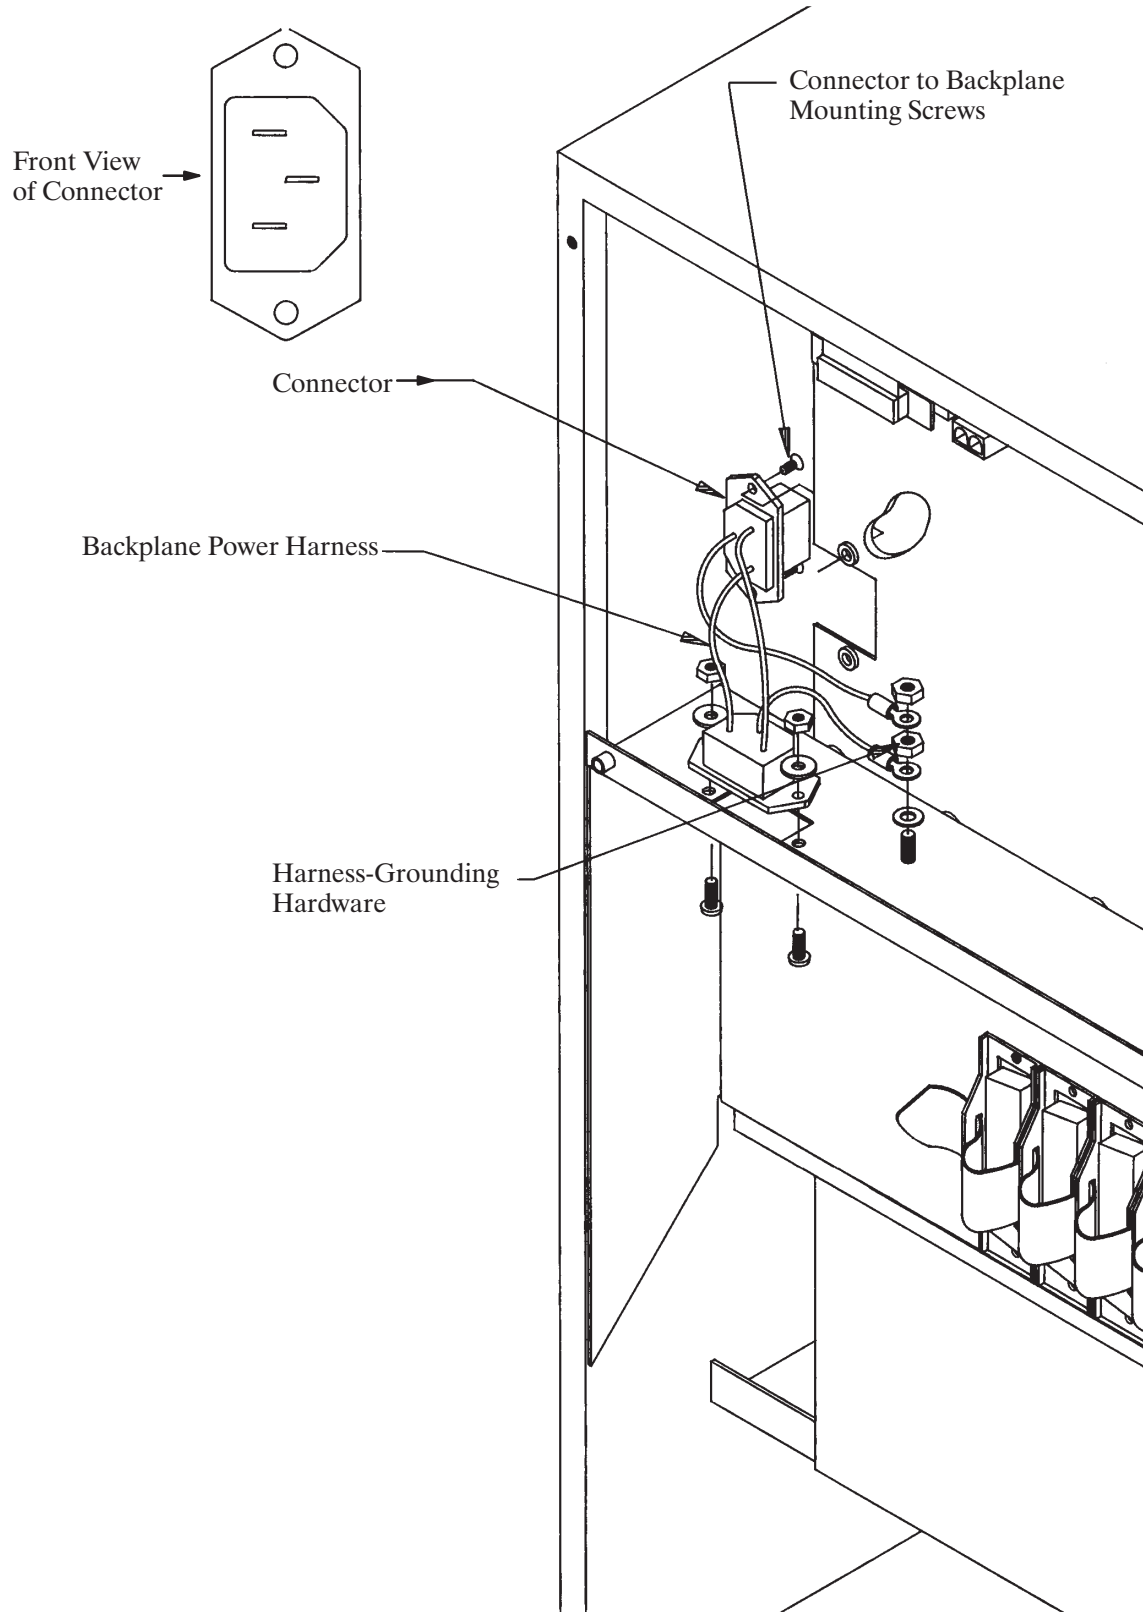
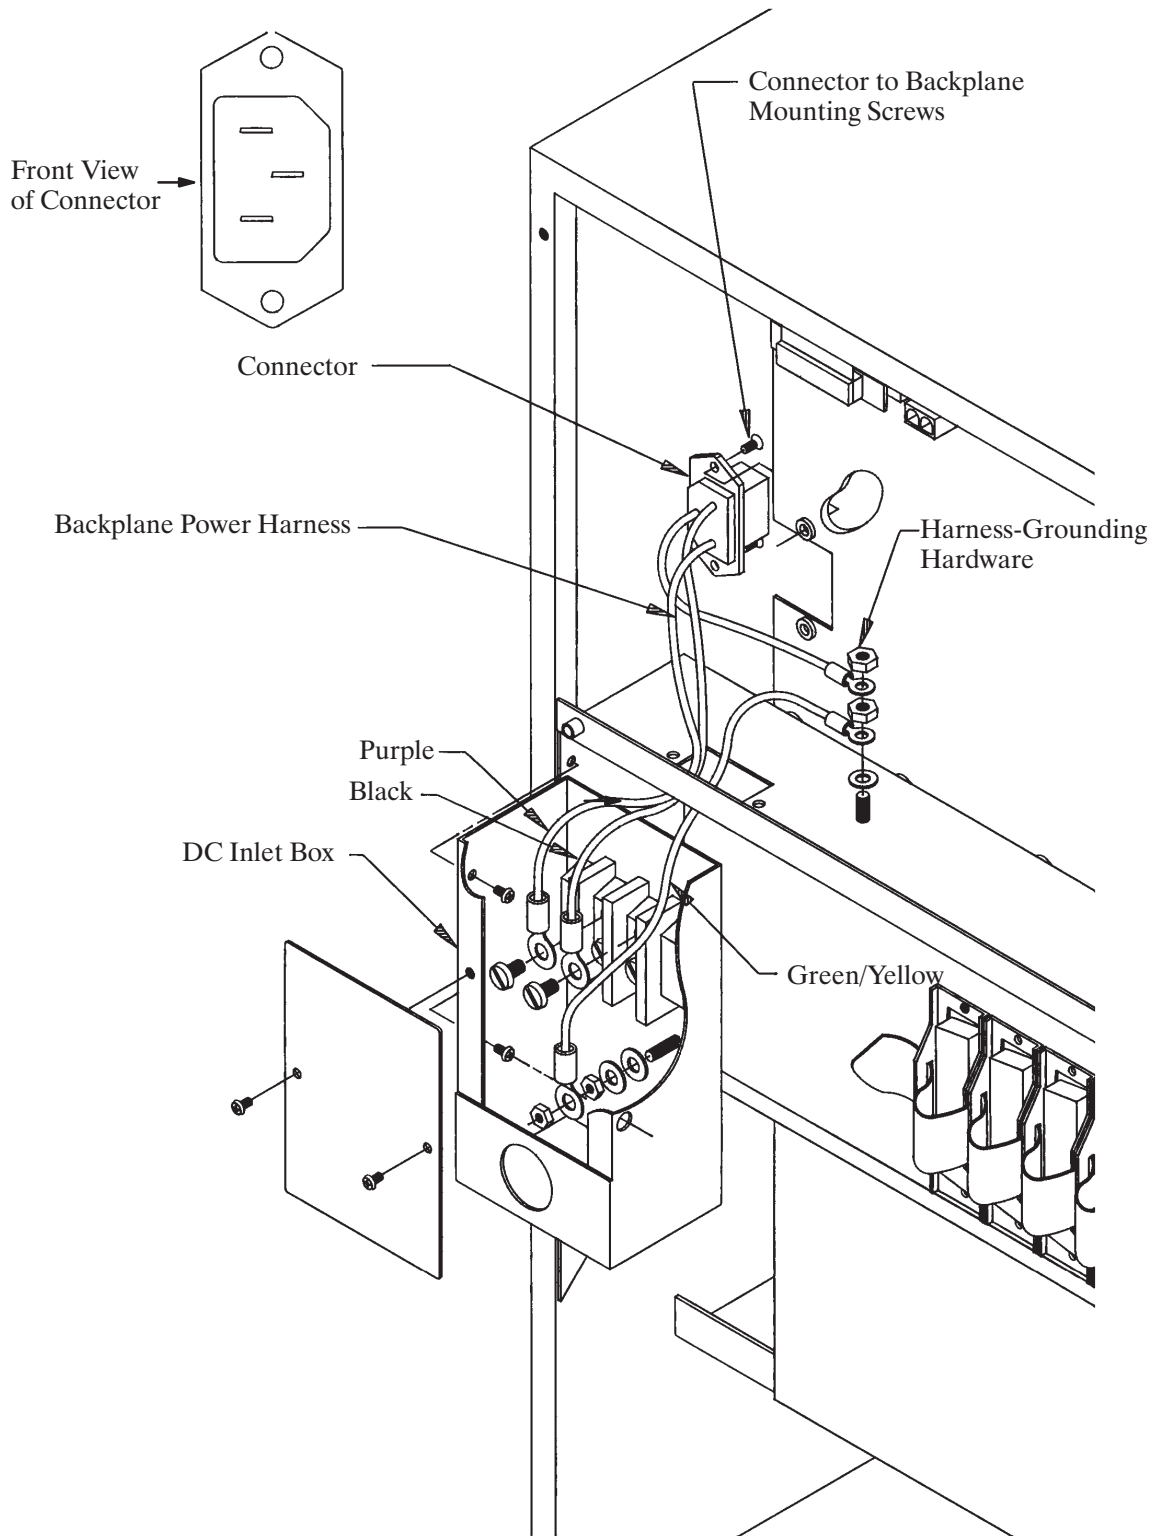

Figure 9-22 A.C. Backplane Power Harness Installation for Octel Overture 200
Figure 9-23 D.C. Backplane Power Harness Installation for Octel Overture 200
Remove the DC inlet box from the back of the message server as shown in Figure 9-23.
14. Refer to Figure 9-22 or Figure 9-23 and remove the hardware that secures the backplane power harness to the motherboard. Use an 11/32 nut driver to remove the grounding hardware. Remove the backplane power harness from the motherboard, so that it can be reinstalled on the new motherboard.
1. Install the backplane power harness from the old motherboard on the new motherboard. Refer to Figure 9-22 or Figure 9-23 for correct installation.
If the cabinet is d.c. powered, reconnect the wires from the d.c. power source to the DC inlet box. Refer to Figure 9-23.